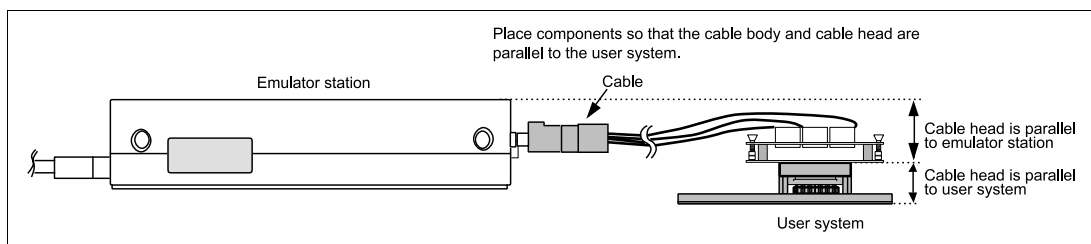

Figure 10 User Cable Location Example
5. While the emulator station is connected to the user system with the user system interface cable, force must not be applied to the cable head. Place the emulator station, user system interface cable, and user system as shown in the example in figure 10.